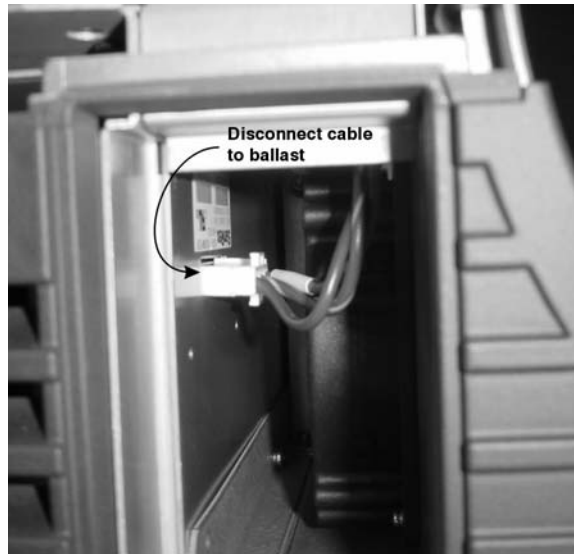

Figure 25. Disconnecting AC Cable from Ballast
7. Disconnect the AC cable connection from the ballast. The cable can be accessed through the channel between the ballast and the exhaust duct. (Figure 25.)